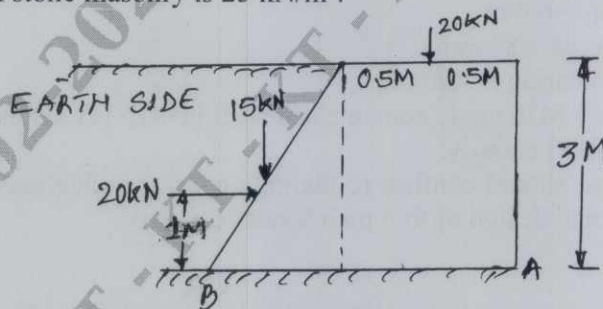

Fig.Q9(c)
c. Compute the stresses developed at the base and check for the stability of the abutment as shown in Fig.Q9(c). SBC of soil is 150 kN/m2. Coefficient of friction between masonry and soil is 0.5, density of stone masonry is 25 kN/m3.